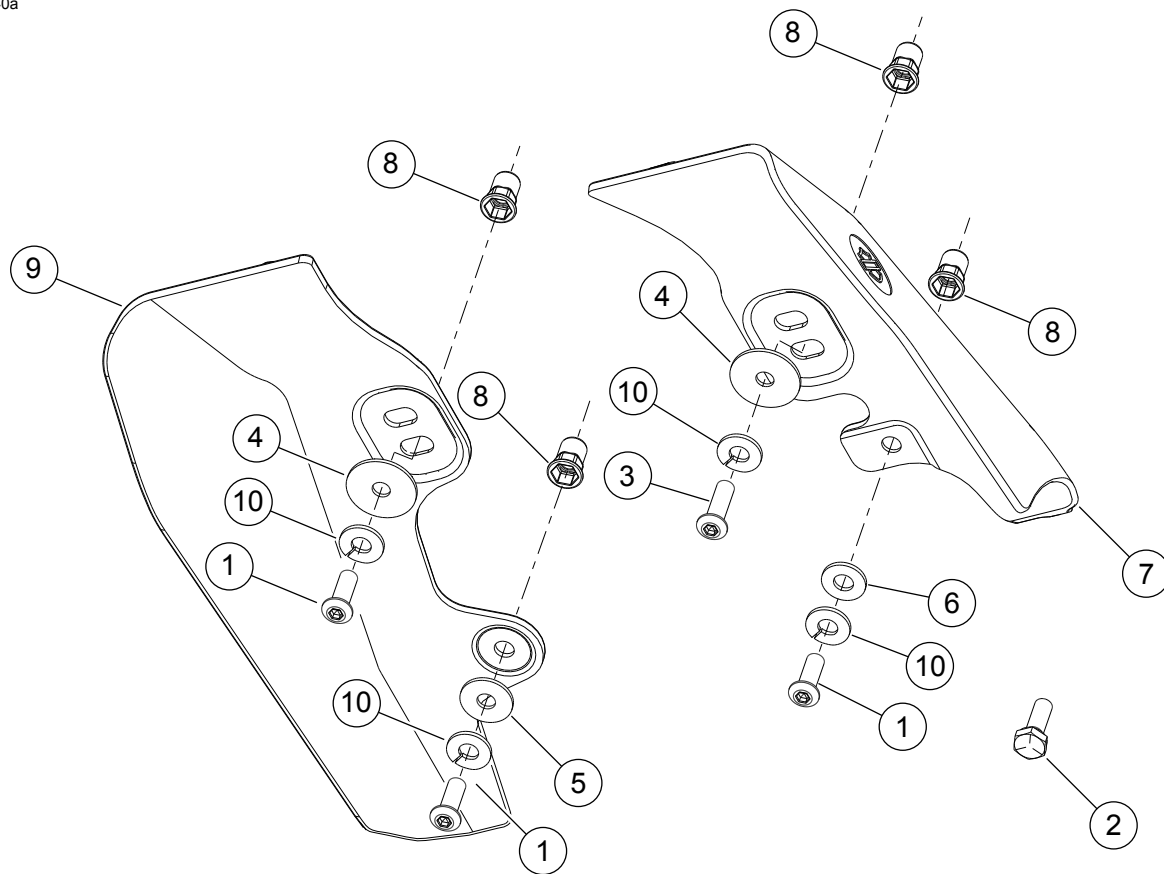

Figure 6. Service Parts: Mid Frame Air Deflectors Kit, 2008 Models
See Figure 5 and Table 1 and Figure 6 and Table 2.
- a. See Figure 6 and Table 2. Obtain special nut (8), hex cap screw (2) and washer (5) from kit.